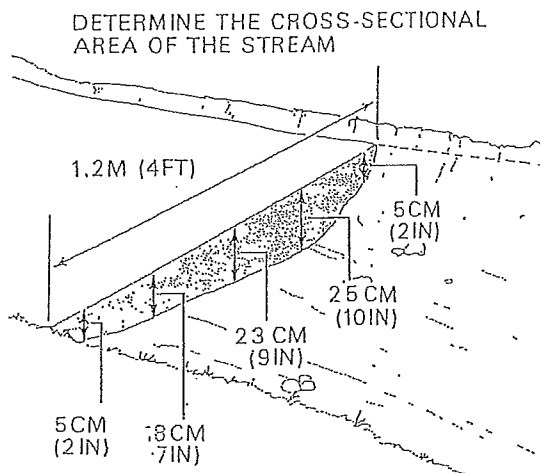

FIGURE 33. Measurements to be made for determining the cross-sectional area of a stream.
Three methods for determining the flow of water in streams are (a) by multiplying the average speed of the stream flow by the cross-sectional areas (Figures 33 and 34), (b) a Weir notch (Figure 35), and (c) a Parshall flume (Figure 36).
1. Determine the cross-sectional area of the stream (Figure 33).